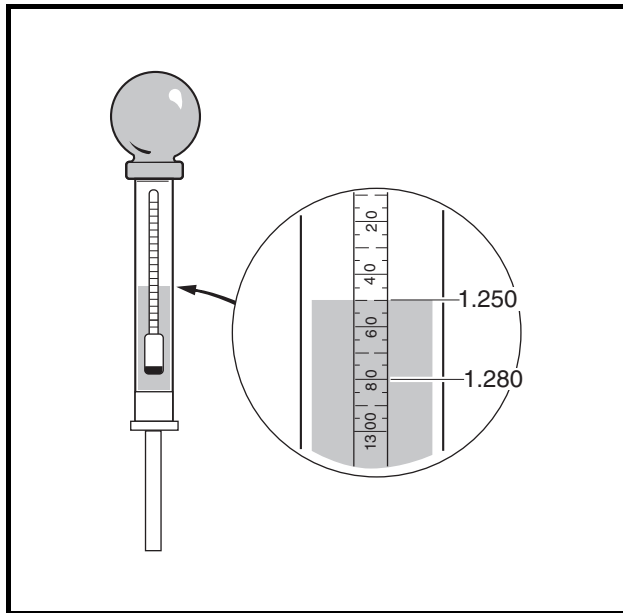

Figure 14-3 Hydrometer
5. Hold the hydrometer vertically, ensuring that the float is not touching the sides of the barrel. Hold the hydrometer at eye level and read the scale at the level of electrolyte (**Figure 14-3, Page 14-8**).